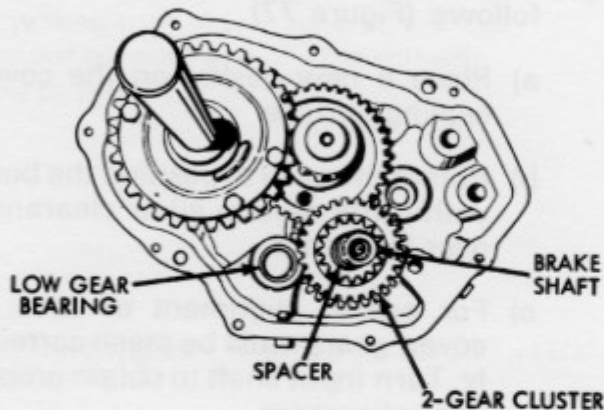

Figure 74 - Two Gear Cluster
5. Assemble the two-gear cluster (Figure 74) onto the brake shaft (previously installed in step 2) with the larger gear down.
6. Install the $1/2'' \times 15/16''$ I.D. spacer (Figure 74) onto the brake shaft.
7. Place a $1/16'' \times 3/4''$ I.D. thrust washer (Figure 74) between shaft and low gear bearing. Install low gear idler shaft.